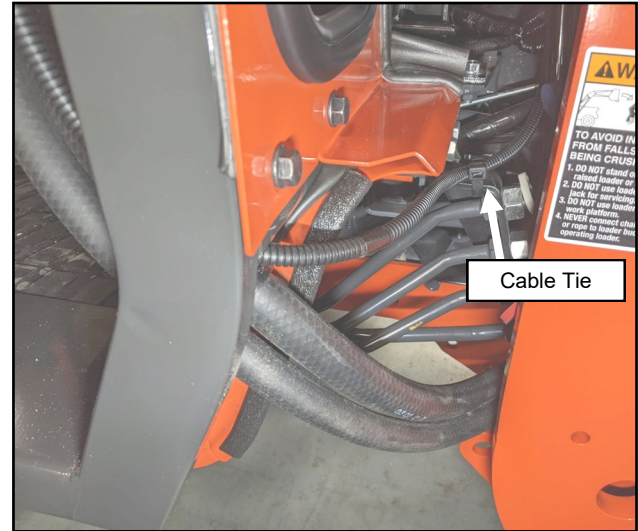

Fig. 16.1 (Secure Wiring Harness)
- 16.1** Route the wiring harness behind the engine to the left side of the engine. Use a supplied cable tie to secure the wiring harness to the hydraulic line bracket or suitable alternative. See Figure 16.1.